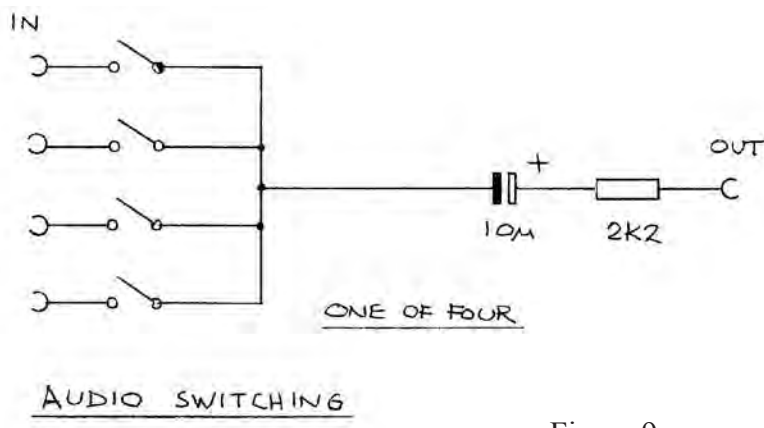

Figure 9
mains power supply. The revised DC supply is shown in Fig.9. I also removed the mains lead to make it more portable but left the mains transformer in place. If I should need to run it from the mains in the future, then I would use a plug-top power supply.
No changes were made to the basic audio switching, which although not providing any proper input-output isolation, performs adequately. The basic audio switching is shown in Fig.9.
- Fig.9. Basic Audio Switching and Power Circuits